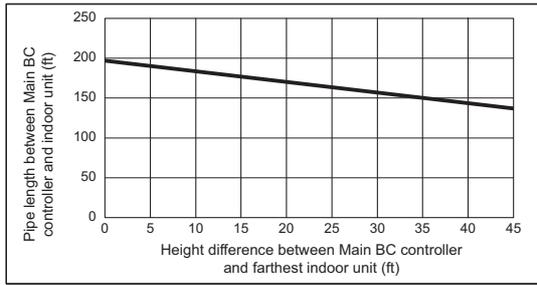

Fig. 2
- *2. Details refer to Fig. 2.
- *9. When the piping length or the vertical separation exceeds the limit specified in Fig. 2, connect a sub BC to the system. The restriction for a system with a sub BC connection is shown in Fig. 3. When a given system configuration falls within the shaded area in Fig. 3, increase the size of the high-pressure pipe and the liquid pipe between the main BC and sub BC by one size. When using M12, M15, M18, M36, or M48 model of indoor units, increase the size of the liquid branch pipe between the sub BC and indoor unit by one size. When using indoor models M54 or larger, the restrictions shown in Fig. 2 cannot be exceeded.
*9. When the piping length or the vertical separation exceeds the limit specified in Fig. 2, connect a sub BC to the system.
When using indoor models M54 or larger, the restrictions shown in Fig. 2 cannot be exceeded.